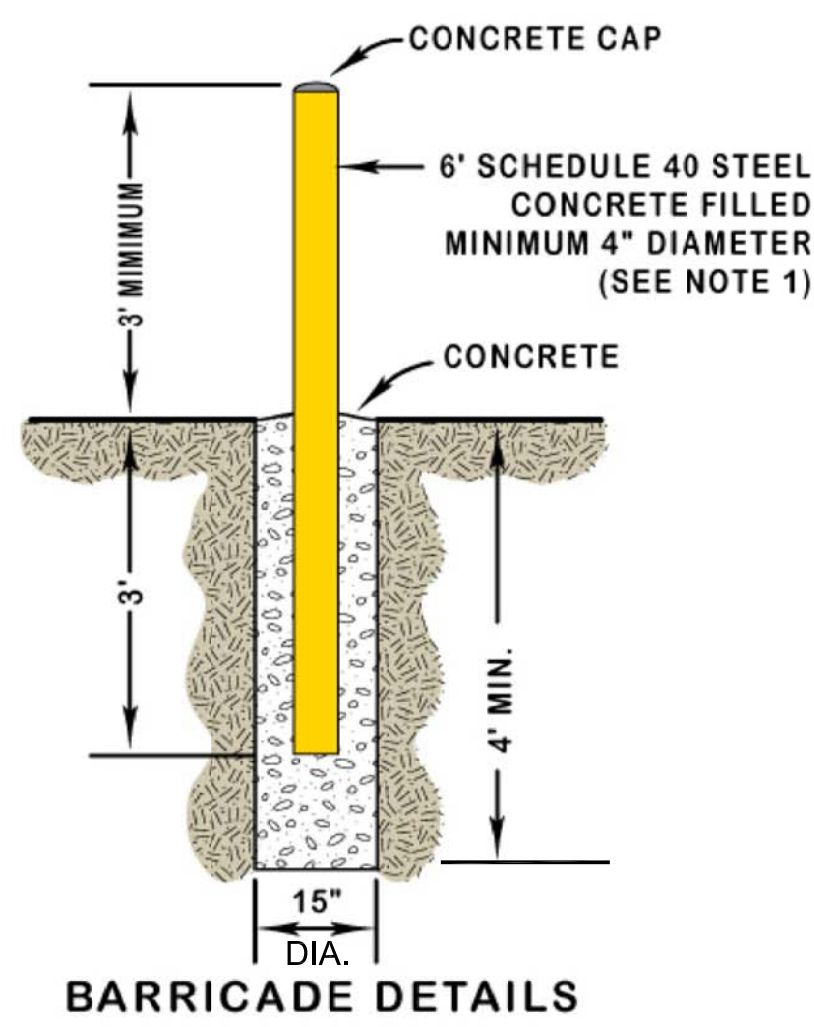

Figure 1
- Figure 1: 6 inch diameter pipe if heavy truck traffic is anticipated. Schedule 40 steel and concrete filled.